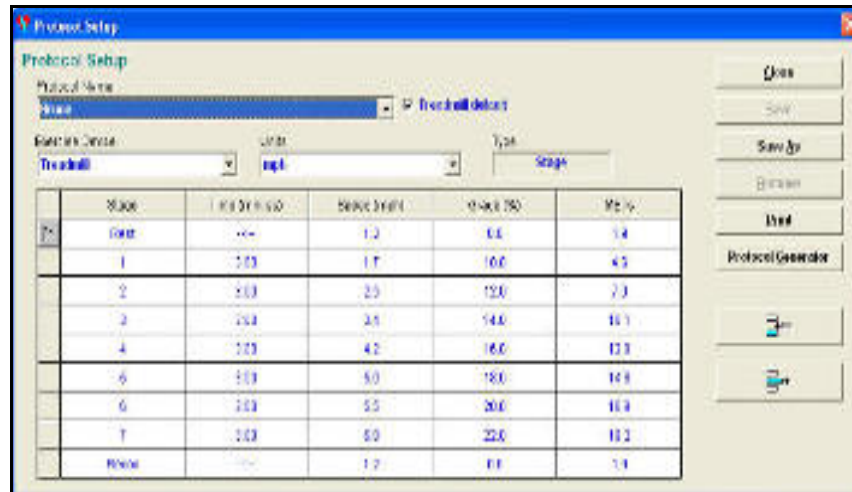

Figure 10-15: Example of the Protocol Setup screen
- From the main menu, select **Setup | Protocol (Ctrl+P)**. The Protocol Setup screen appears (Figure 10-15).